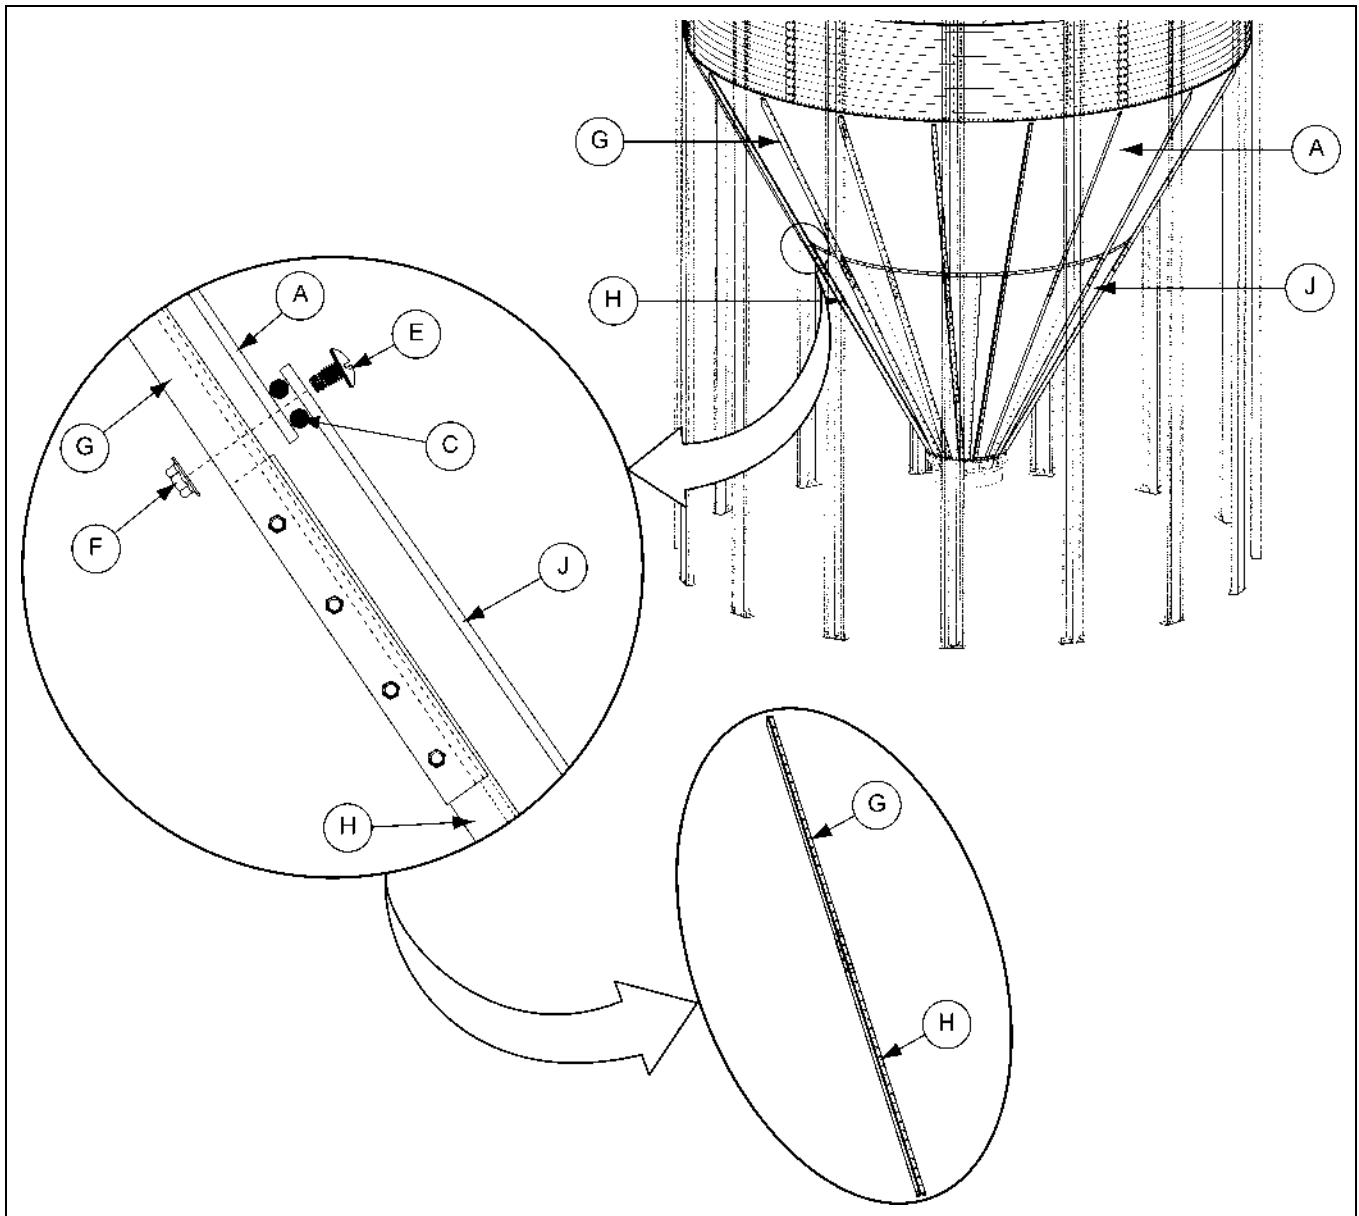

Figure 11F Lower Panel to Upper Panel Connection
2. Connect the angles using bolts (E) and nuts (F). (See Figure 11F on Page 71.)
3. Align the lower hopper panels (J) to the lower stiffener angles (H) and the upper hopper panels (A).
4. Connect the panels (A and J) and the lower stiffener angle (H) using bolts (E) and nuts (F).